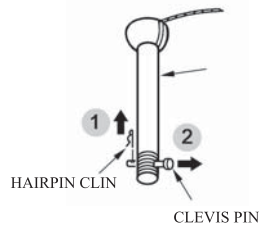

FIG.3
1. Remove the hairpin clip from the clevis pin and remove clevis pin from downrod. ( See Fig. 3 )